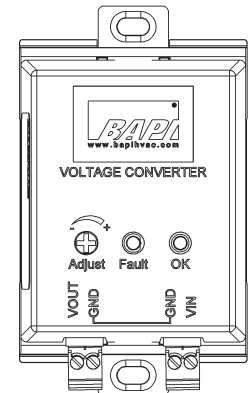

Fig. 8: EZ-Mount with mounting tabs extended
- If not showing, pull the blue mounting tabs out as shown in Figure 8.